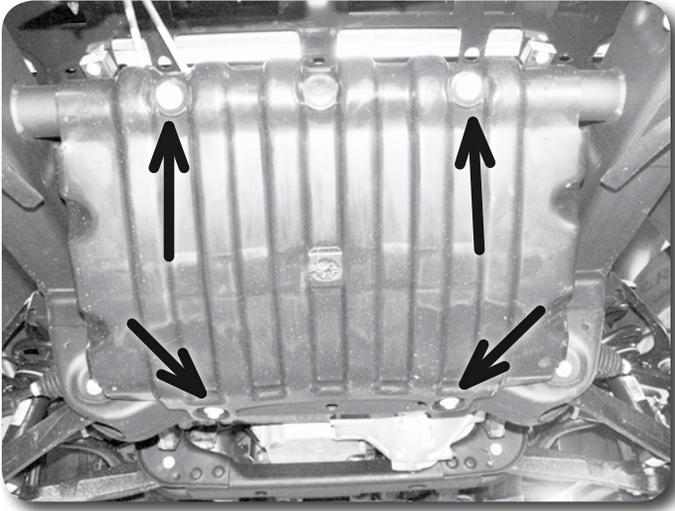

Figure 10
15. Remove the four bolts mounting the front skid plate to the frame Figure 10. Remove the skid plate from the vehicle. Save skid plate and bolts.